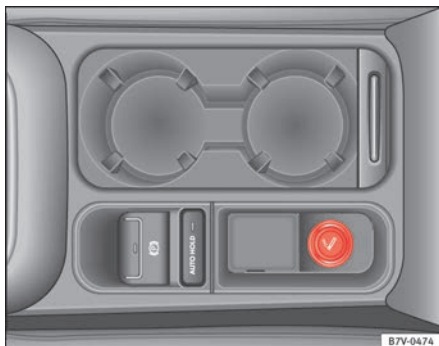

Fig. 118 Front centre console: lighter.
Depending on the vehicle equipment, there may be a lighter to the front of the centre console ⇒ fig. 118 or in the compartment to the front of the centre console.
- Push the button on the cigarette lighter inwards with the ignition on ⇒ fig. 118.